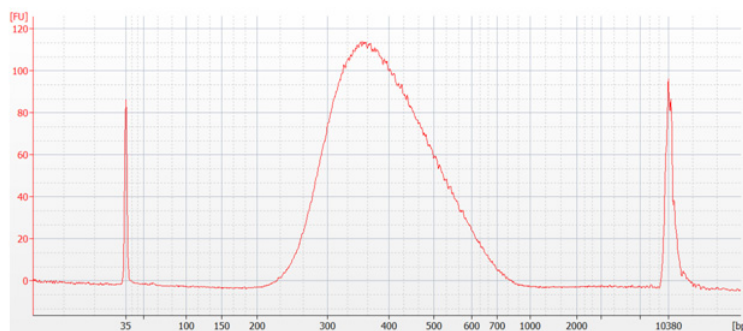

Figure 11 Post-capture analysis of library DNA using the High Sensitivity DNA Assay.
- 5 Verify that the electropherogram shows the peak of DNA fragment size positioned between 325 and 450 bp. A sample electropherogram is shown in Figure 11.